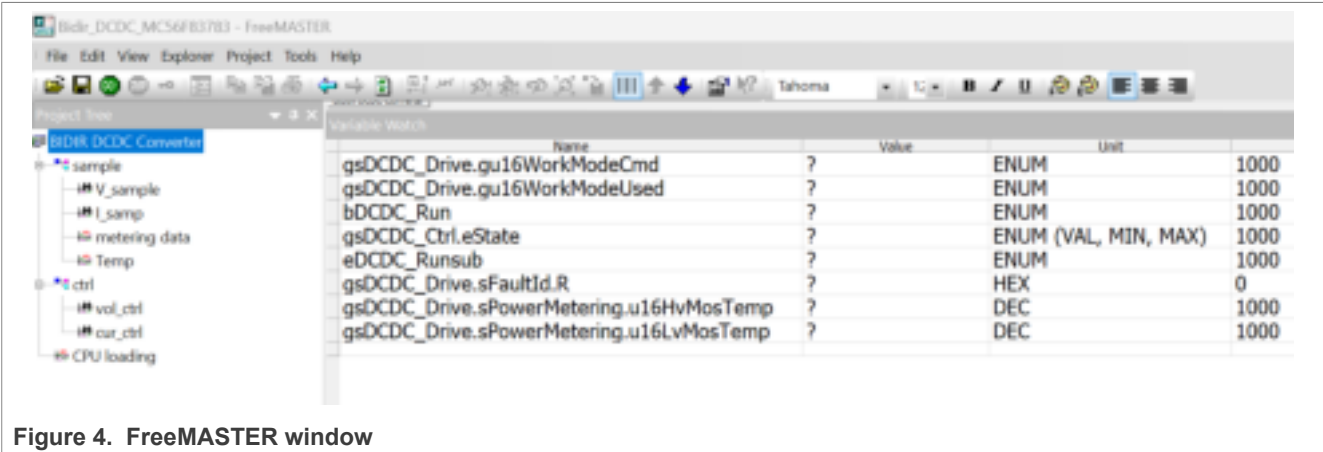

Figure 4. FreeMASTER window
1. Open the FreeMASTER project (Bidir\_DCDC\_MC56F83783.pmpx) with FreeMASTER. Figure 4 illustrates the FreeMASTER window.